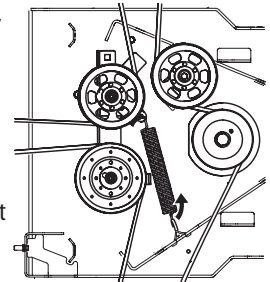

Figure 46
- b. Remove the idler spring from the wireframe spring hook on the right side of the center of the deck. See Figure 46.